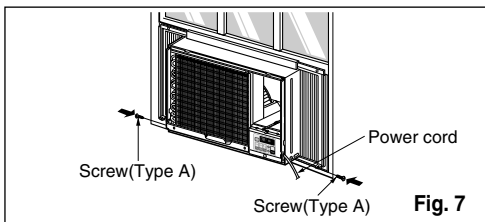

Fig. 7
10. Slide the unit into the cabinet.(See Fig. 7)